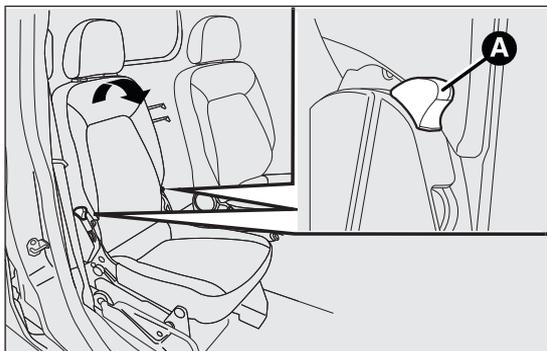

fig. 18
- pull lever A fig. 18 and fold the backrest forwards in the direction indicated by the arrow;